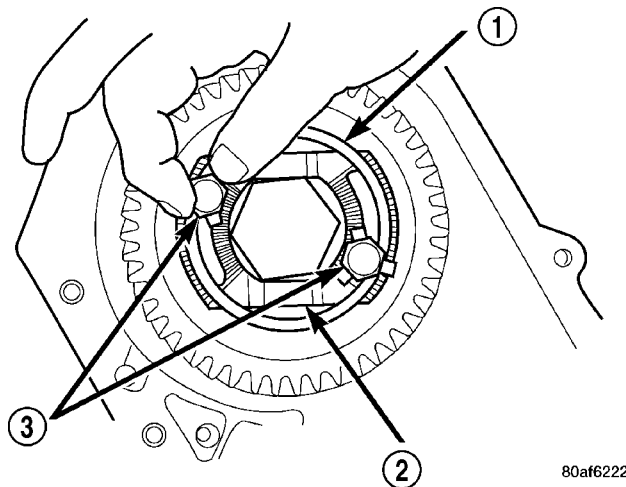

Fig. 107 Install Strap Bolts
(19) Install retaining strap.
(20) Install strap bolts but do not tighten at this time (Fig. 107).